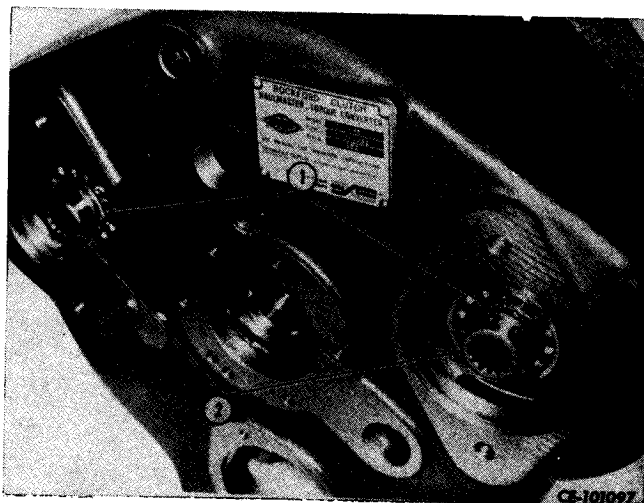

Figure 3-35
Remove snap rings (1, Fig. 3-35) from gear shafts (2). Using a soft mallet drive gear from bearings.
Turn converter housing over and install snap rings (1, Fig. 3-35).